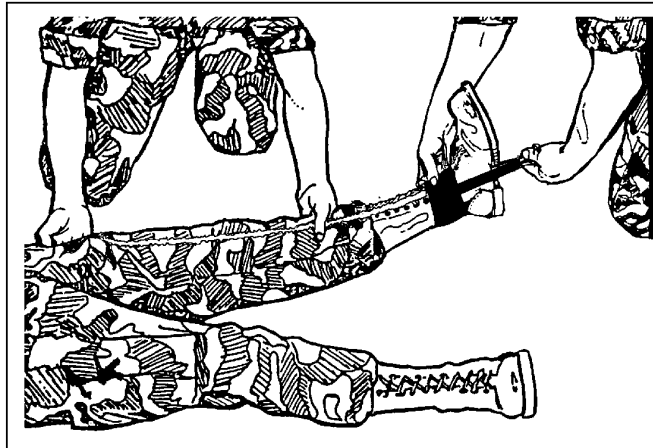

Figure 3-30
- b. Direct the assistant to indicate when he is ready to lift (i.e., on your count of three, we will lift the leg). (See Figure 3-30.)